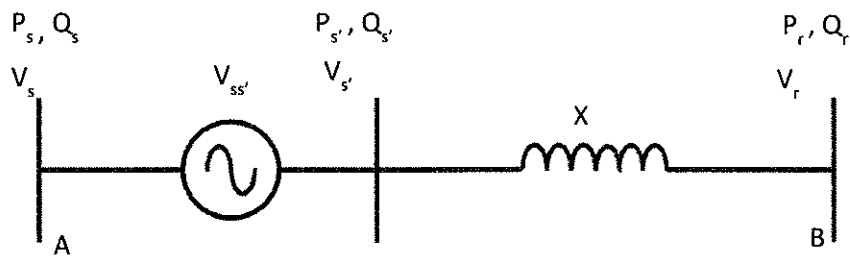

Figure Q4
d) A series compensated transmission line is shown in figure Q4. The compensator $V_{ss'}$ which is generating voltage phasor $V_{ss'}e^{j\beta}$ (β is measured with respect to sending end voltage), is located very close to end A. Assume that line impedance can be lumped to a series inductor X . Active power P , reactive power Q , and voltage V at various points of the system are shown in figure Q4.